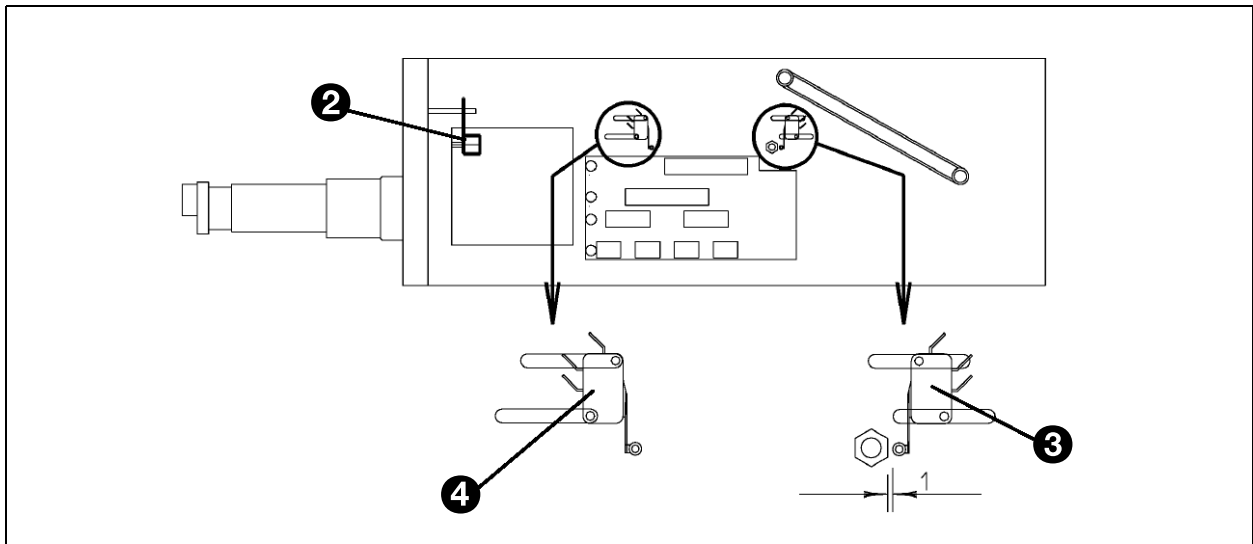

Fig. 137 - Position of the safety switches
1. Stop the machine so that the actuator is in the 0-position, see fig. 137. **! TAKE NOTE OF THE DIRECTION OF ROTATION.**
2. Turn the potentiometer's shaft 1x turn from 0-position and mount the potentiometer (2) (The potentiometer can make 2 more turns than the actuator; a potentiometer mounted in this way then has 1 turn left over at the beginning and end.)
2. Mount switch (3) in accordance with fig. 137.
3. Mount switch (4) in the beginning of the slot, see fig. 137.